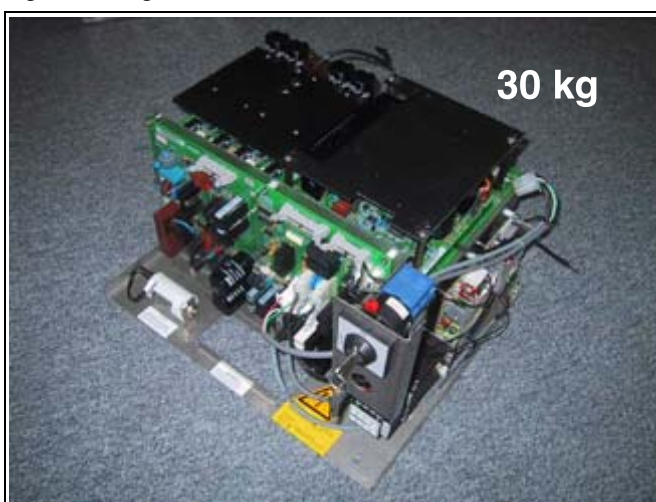

Fig. 28: Capacitor bank dismantled
- ⇒ Be prepared for its significant weight! (Fig. 28 / p. 42)